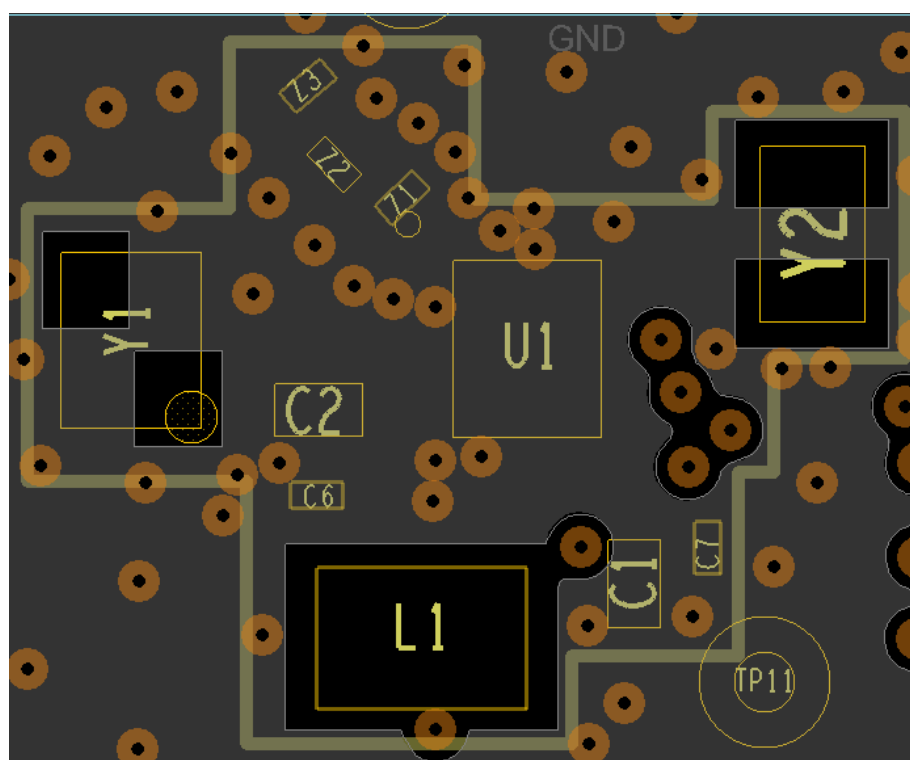

Figure 38: WLCSP17 PCB Placement and Routing – GND plane - INT1 Layer
- Remove the area on the INT1 ground layer under the pads of the XTAL to reduce the coupling as shown in Figure 38